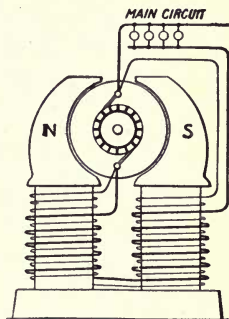

FIG. 87.—Compound-Wound Dynamo.
**236. Compound Machines.**—A compound dynamo (Fig. 87) is one having two series of windings; one series winding, around the part through which the main current flows, and a shunt winding through which a fraction of the main current flows. Compound machines are used in railway power plants, because of the violent fluctuations of load, and in small lighting plants of low diversity factor, where the consumers' demands fluctuate widely.